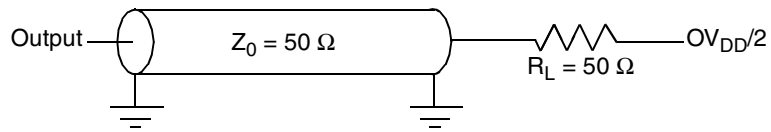
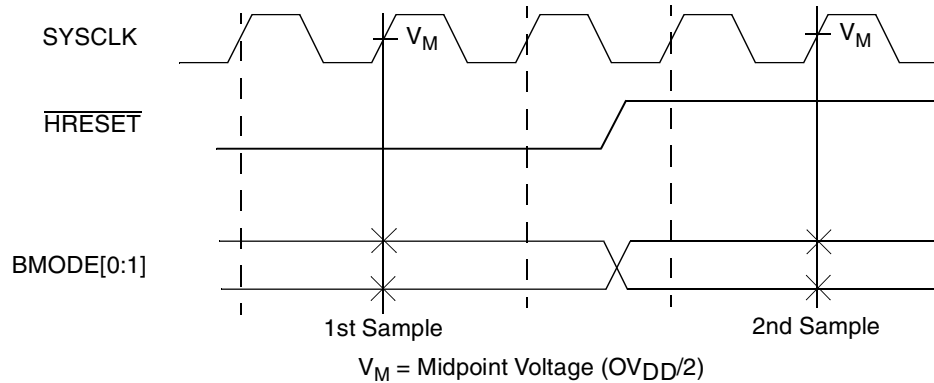

Figure 4. AC Test Load
Figure 5.  $\overline{\text{BMODE}}[0:1]$  Input Sample Timing Diagram
Table 9 provides the processor bus AC timing specifications for the MPC7448 as defined in Figure 4 and Figure 5.
- All input specifications are measured from the midpoint of the signal in question to the midpoint of the rising edge of the input SYSClk. All output specifications are measured from the midpoint of the rising edge of SYSClk to the midpoint of the signal in question. All output timings assume a purely resistive 50-Ω load (see Figure 4). Input and output timings are measured at the pin; time-of-flight delays must be added for trace lengths, vias, and connectors in the system.
- The symbology used for timing specifications herein follows the pattern of  $t_{(signal)(state)(reference)(state)}$  for inputs and  $t_{(reference)(state)(signal)(state)}$  for outputs. For example,  $t_{VKH}$  symbolizes the time input signals (I) reach the valid state (V) relative to the SYSClk reference (K) going to the high (H) state or input setup time. And  $t_{KHOV}$  symbolizes the time from SYSClk(K) going high (H) until outputs (O) are valid (V) or output valid time. Input hold time can be read as the time that the input signal (I) went invalid (X) with respect to the rising clock edge (KH) (note the position of the reference and its state for inputs) and output hold time can be read as the time from the rising edge (KH) until the output went invalid (OX).
- $\overline{BMODE}[0:1]$  and  $BVSEL[0:1]$  are mode select inputs.  $\overline{BMODE}[0:1]$  are sampled before and after  $\overline{HRESET}$  negation.  $BVSEL[0:1]$  are sampled before  $\overline{HRESET}$  negation. These parameters represent the input setup and hold times for each sample. These values are guaranteed by design and not tested.  $\overline{BMODE}[0:1]$  must remain stable after the second sample;  $BVSEL[0:1]$  must remain stable after the first (and only) sample. See Figure 5 for sample timing.
Figure 4 provides the AC test load for the MPC7448.
Figure 5 provides the  $\overline{\text{BMODE}}[0:1]$  input timing diagram for the MPC7448. These mode select inputs are sampled once before and once after  $\overline{\text{HRESET}}$  negation.